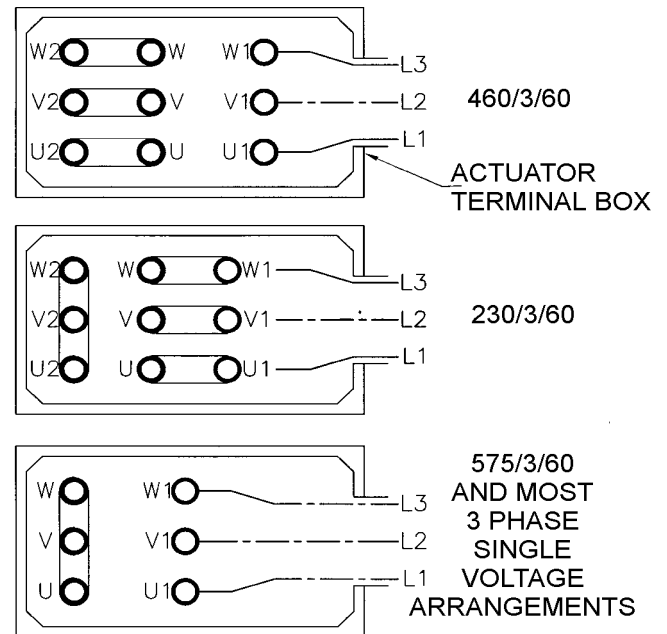

Figure 4 : Electrical Connections
7.3: If the motor was specified for a nominal 460 Volt supply it will be connected with nine terminals and the links arranged as shown in Fig. 4. If at some future date the motor is required to operate from a 230 Volt. supply, re-arrangement of the links is required as shown.
7.4: When specified for operation on 575 Volts or other single voltage, it will be connected with six terminals, the links arranged as shown in Fig. 4. The winding will not be capable of re-connection for any other voltage.